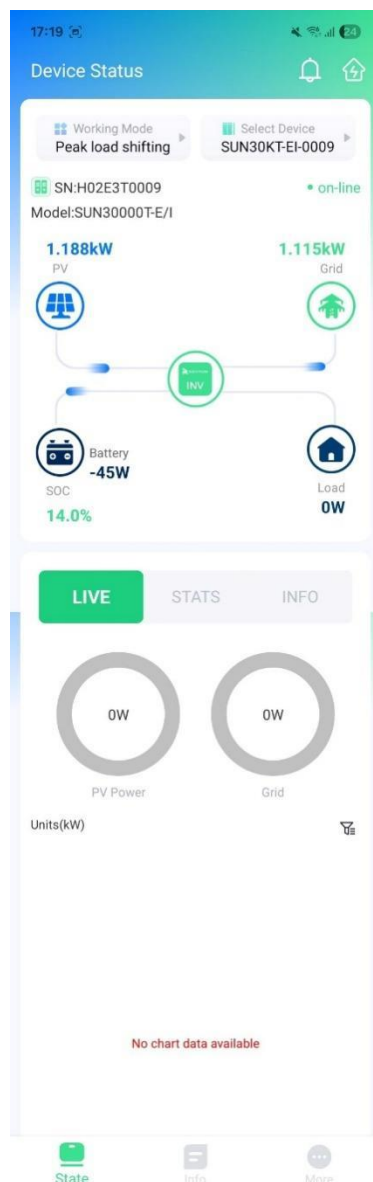
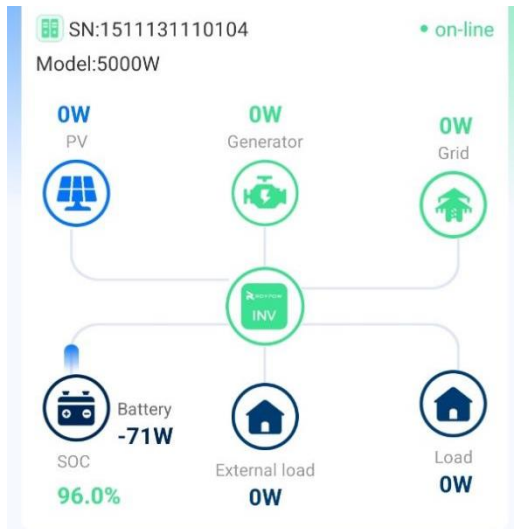

Fig. 3.1 Device Status
Fig. 3.8 Device Online
After a successful login, you'll be taken directly to the "Device Status" page. If you have multiple inverters, it will show detailed information for one of the online inverters by default. as shown in Fig. 3.1.
- 1.Adding devices (in Area 1 of Fig. 3.1).
- 2.Operating modes (in Area 2 of Fig. 3.1).
- 3.Device selection (in Area 3 of Fig. 3.1).
- 4.Real-time energy status: This shows the energy status including PV, battery, grid, load, and the central inverter, along with the device's online status (in Area 4 of Fig. 3.1).
- 5.Daily, monthly, and yearly total electricity sales revenue data (in Area 5 of Fig. 3.1).
- 6.Device data: Real-time data, statistical data, and device information (in Area 5 of Fig. 3.1). For details on each area, please refer to the following subsection.
Users can choose from three different operating modes based on their needs. On the "Device Status" page, click on "**Operating Modes**" (in Area 2 of Fig. 3.1). This will take you to a new page where you can select one of three working modes: "Self-consumption", "Battery Priority" or "Peak Shaving". After choosing the desired mode, click "**Save**". A pop-up will confirm the successful save, as shown in Fig. 3.2 and Fig. 3.3.
By default, the inverter is set to operate independently. However, users can choose to change this setting based on their needs. On the "Device Status" page, click on "Connection Mode" (in Area 2 of Fig. 3.1). This will take you to a new page where you can select one of three connection modes: "Independent", "Parallel" or "Constant Voltage". After choosing the desired mode, click "Save". A pop-up will confirm the successful save, as shown in Fig. 3.5 and Fig. 3.6.
In the "Device Status" page, click on "**Device Selection**" (in Area 1 of Fig. 3.1). A dropdown list will appear, and you can click on the **software-simulated device 1236547890123856** to view its data or modify its settings, as shown in Fig. 3.7.
On the "Device Status" page, you can see the visual representation of device online status and real-time energy status (in Area 4 of Fig. 3.1). Online device status is shown in Fig. 3.8, where there are four directional lines representing energy dynamics.
In the "Device Status" interface, you can find detailed device data (in Area 5 of Fig. 3.1) The device data section includes: Real-Time Data, Statistical Data and Device Overview For a detailed explanation of the data, please refer to the following sections.
In the "Device Status" page, click "**Real-Time**" (in Area 5 of Fig. 3.1) to view real-time dynamic data for the current device. You can view the following parameters in real-time data: